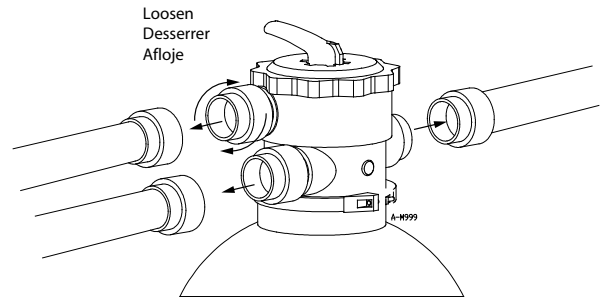

Figure 9
- Disconnect the filter unions to take the filter offline (Figure 9).